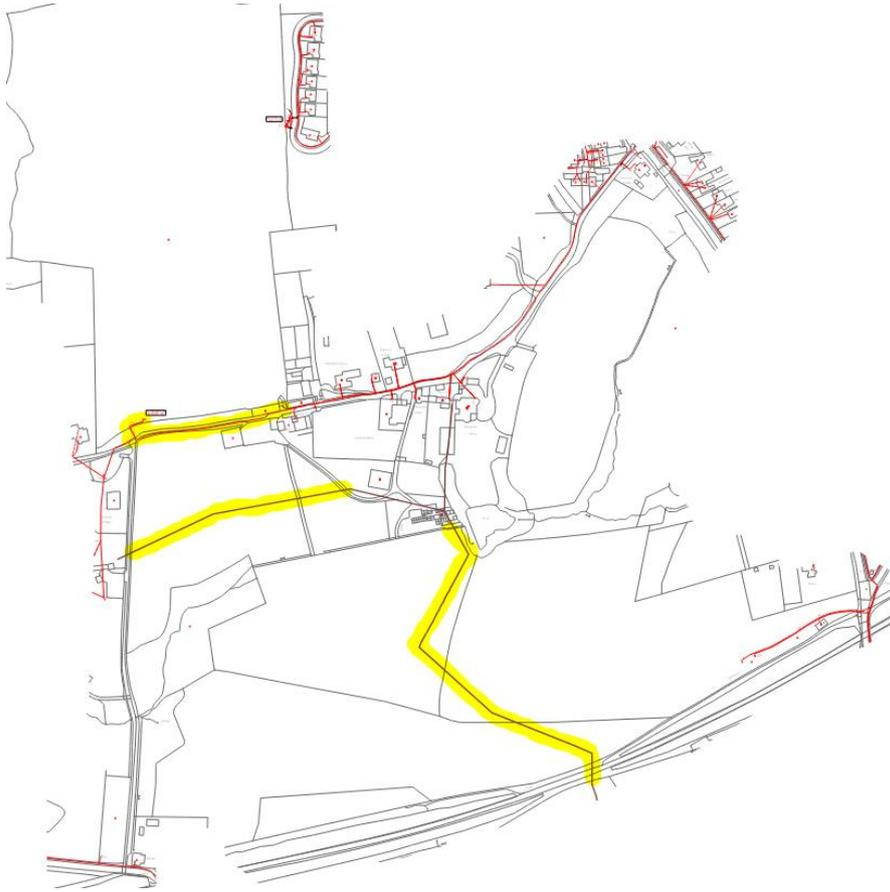

Figure 10: Highlighted LV cable and Thames Water foul sewer
5.2.2 As part of the proposed works to the development area, it is also anticipated that the existing LV supply routing across the center of the site through the Huntsland Private Road to serve the properties to the west will have to be disconnected or diverted. This however is dependent on the development of the site. It may be that the overhead LV lines do not affect the development buildings or facilities and therefore can remain as is. With UKPN's agreement, an option may be to replace the overhead lines with buried services. This should be a consideration when planning the site layout. The costs of these works should be incorporated into the development and construction of the site as the project advances (Figure 10).